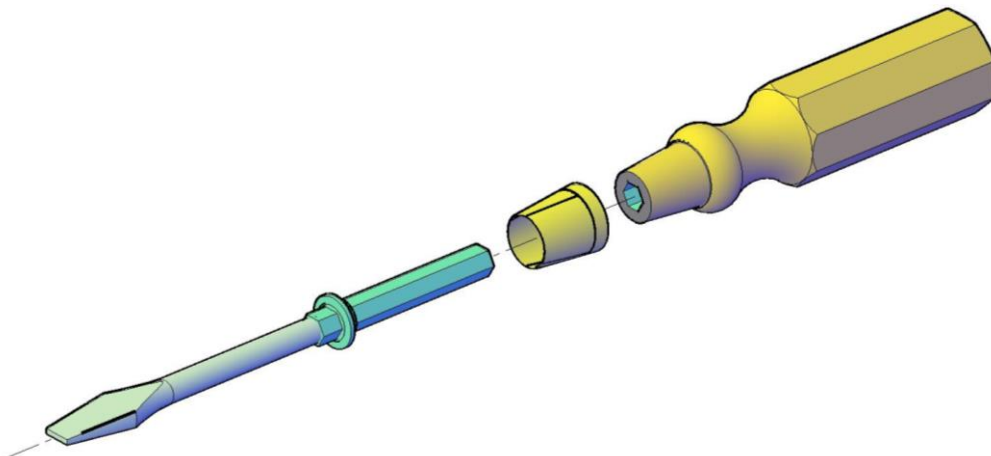

Figure 3a
3. Figures 3a and 3b show illustrations of an exploded and an assembled screwdriver. The screwdriver has the following features: